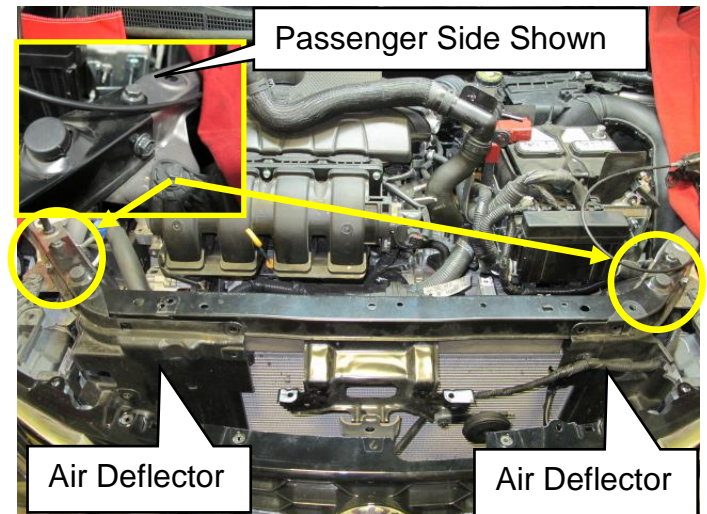

Figure 19
25. Remove the radiator core support (Refer to Figure 19).
- Remove (4) 12 mm retaining bolts.